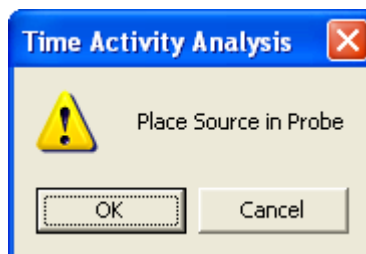

Figure 12-6
2. The screen shown in Figure 12-6 will appear.